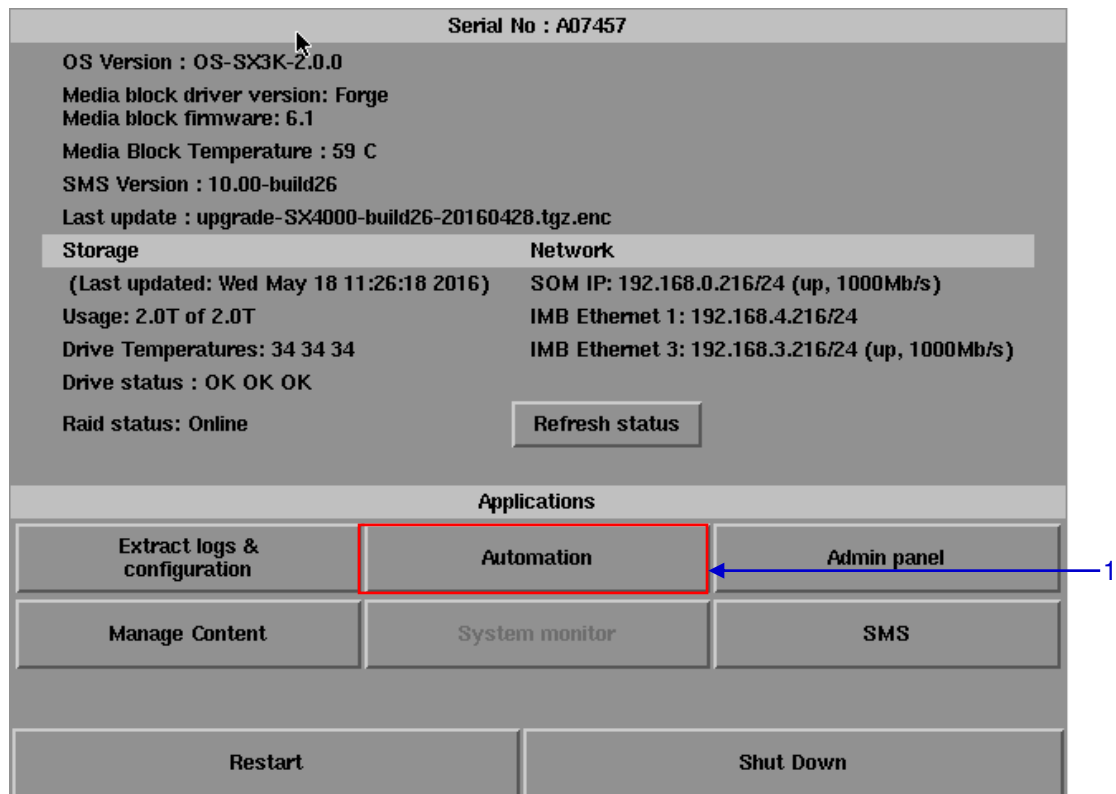

Figure 54 Accessing Automation.
- Automation labels and projector commands can now be executed from an interface on the Control Panel. Press **Automation** on the **Control Panel** to start the manual automation interface as shown in **Figure 54**.